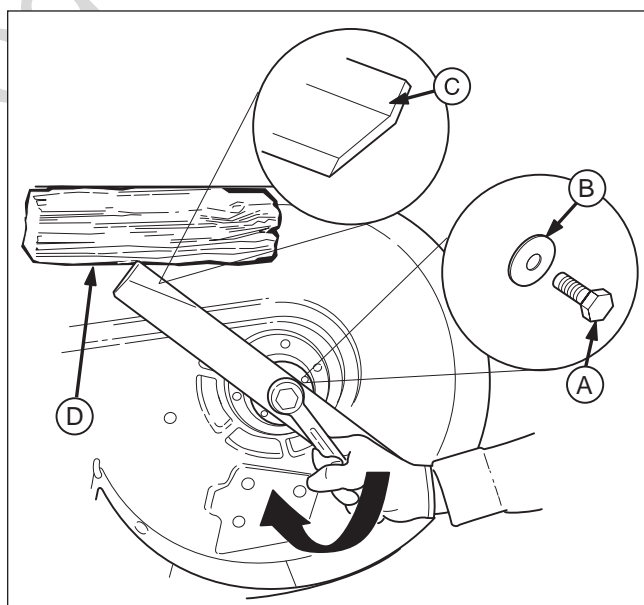

Figure 27. Tightening the Mower Blade for Installation
1. Reinstall each mower blade with the air lifts pointing up towards the mower deck as shown in Figure 27. Secure with the mower blade mounting bolt and flat washer (A & B, Figure 27).